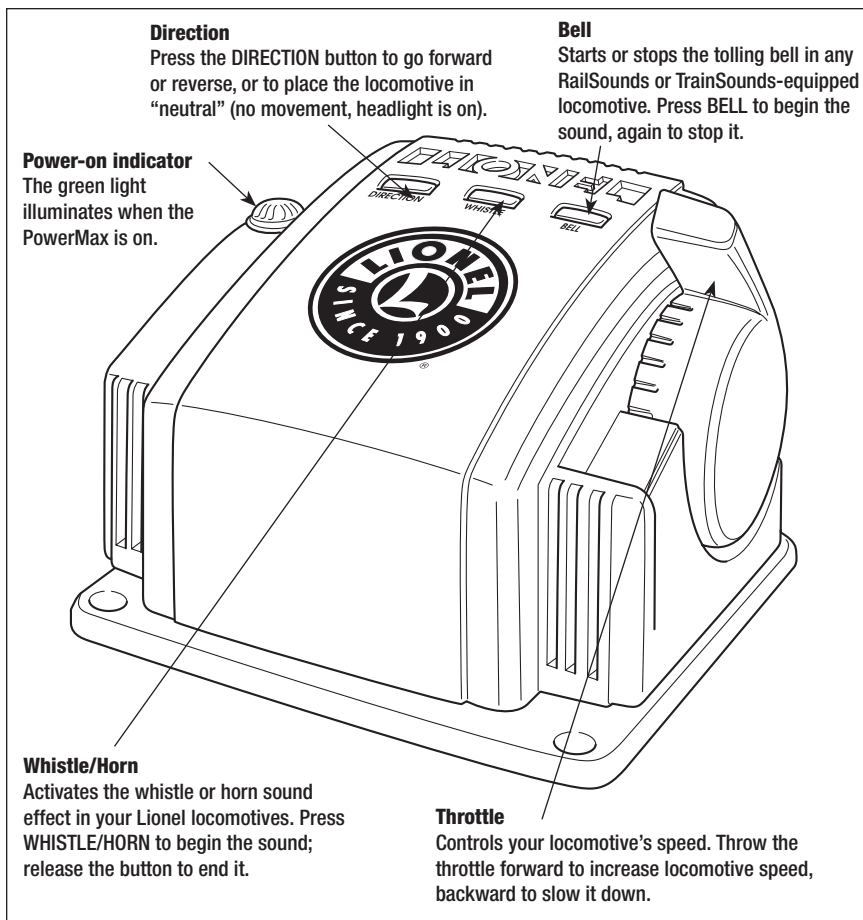

Figure 7. Transformer features
**R**efer to Figure 7 on page 13 for the location of the Transformer features listed in this section.